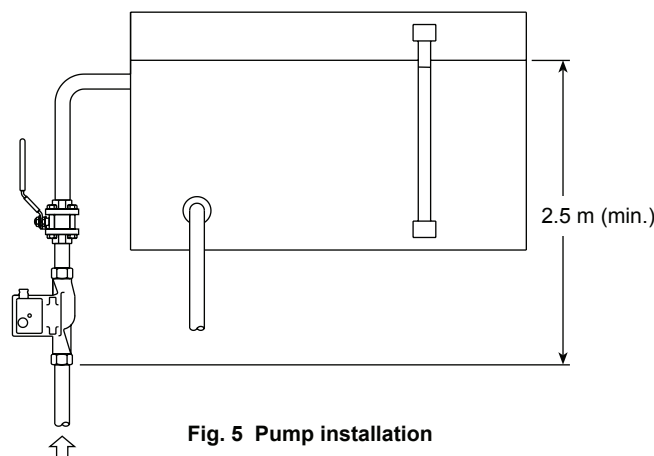

Fig. 5 Pump installation
The pump should be situated in a vertical pipe pumping upwards as shown in Figure 5. This position ensures that the pump shaft is horizontal which reduces the thrust bearing load and ensures positive air purging from both the rotor chamber and impeller housing. Where pumps can only be installed in horizontal pipework, it is imperative that the pump shaft is horizontal, or slightly higher at the vent plug end. The shaft must not fall below the horizontal plane, even by a few degrees, as this causes premature wear of the top bearing and shaft. Pumps are not to be installed with the shaft in the vertical plane, as this may lead to dry running of the top bearing, noise and possible pump failure. Try to position the pump motor away from hot surfaces and allow access to the switch on the terminal box. Ensure that the pump is not stressed by the pipework and that the pipework is properly supported either side of the pump. If necessary use proprietary mounting brackets. Pipework downstream of the pump is to match the outlet connection of the pump including the isolating valve.
- The minimum inlet pressure to avoid cavitation of the pump is equivalent to 2.5 m head of water. It is recommended therefore that the pump is installed at least 2.5 m below the lowest water level of the cold treated water storage tank as shown in Figure 5.